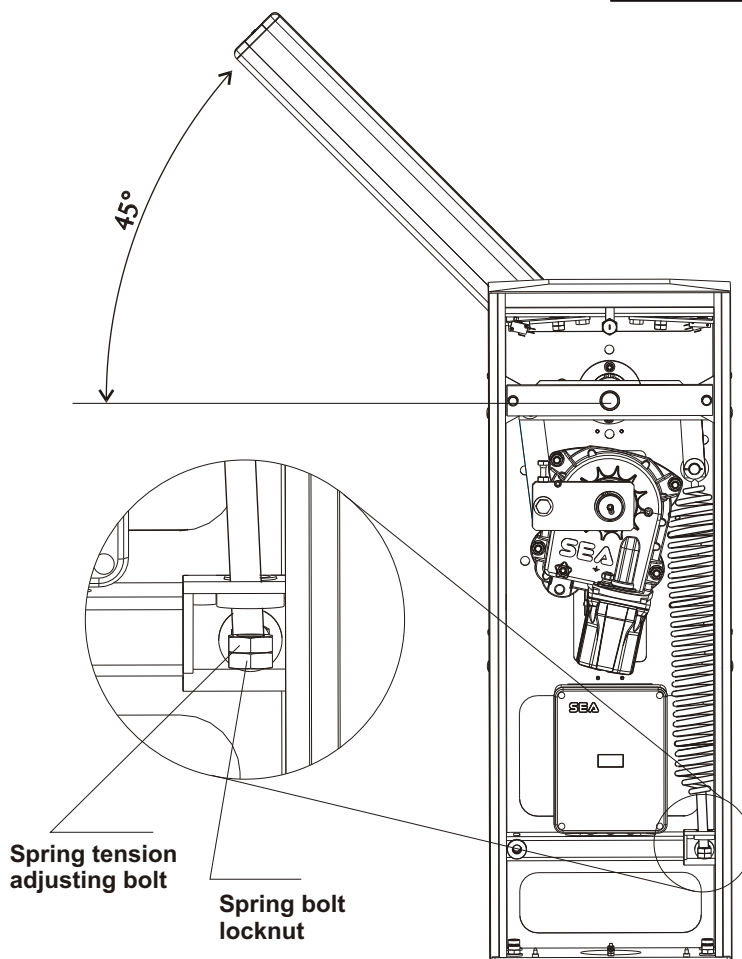

Fig. 13
- Place the beam at approx. 45° and execute the balancing with the nuts of Fig.13.
- Tight or untight the spring adjusting bolt locknut so that the spring reaches a balance point with the beam at 45° (Fig.13).